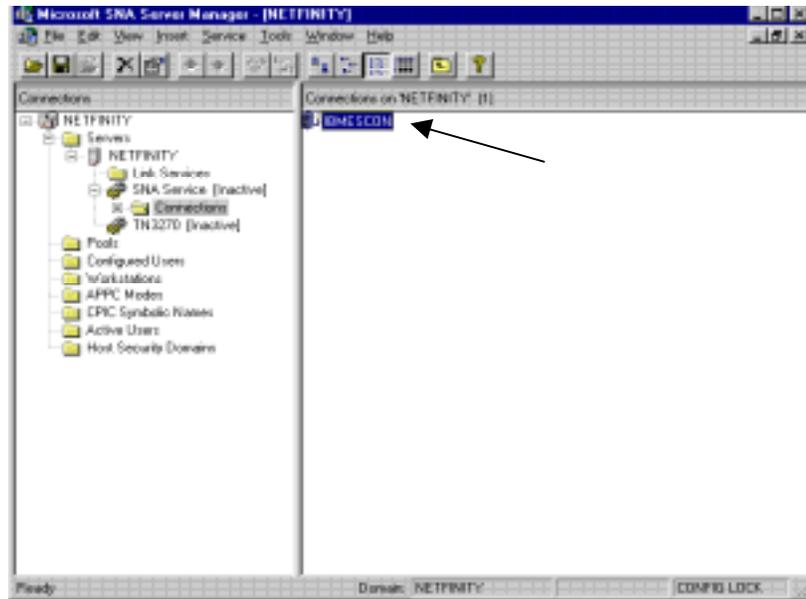

Figure 15-12. ESCON Connection (PU)
2. Verify that a connection is defined to the link service (Figure 15-12).